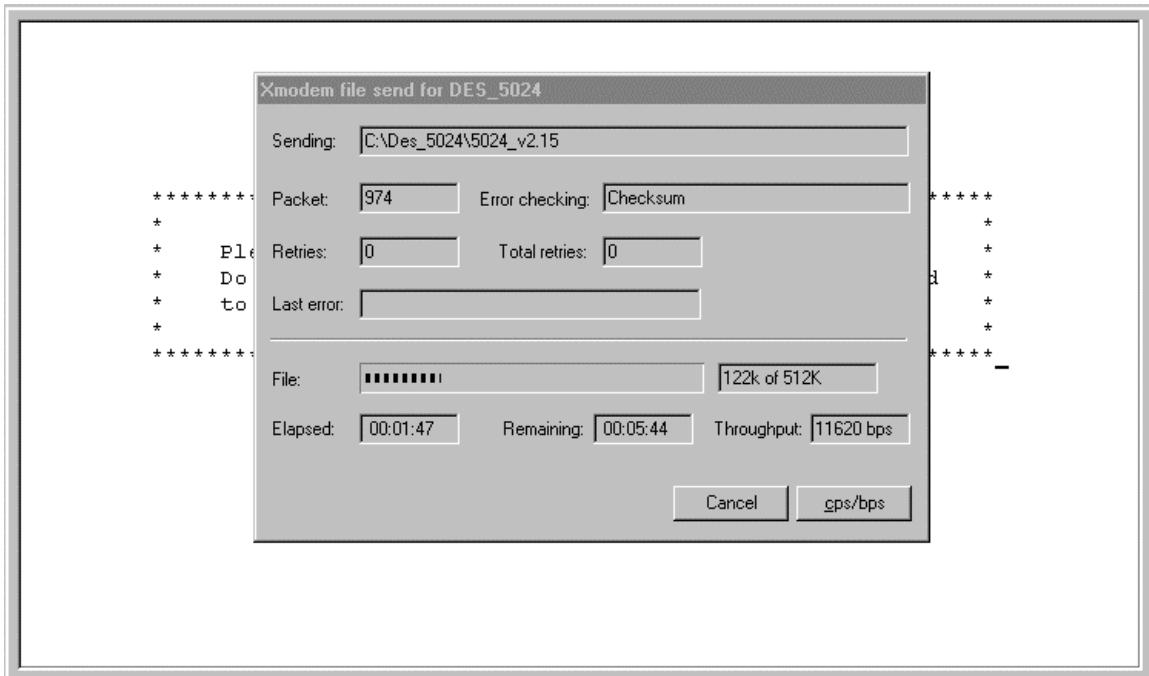

Figure 27: Xmodem
6. The panel, displayed in Figure 27, will display statistics about the transfer, including the elapsed time and the time remaining.